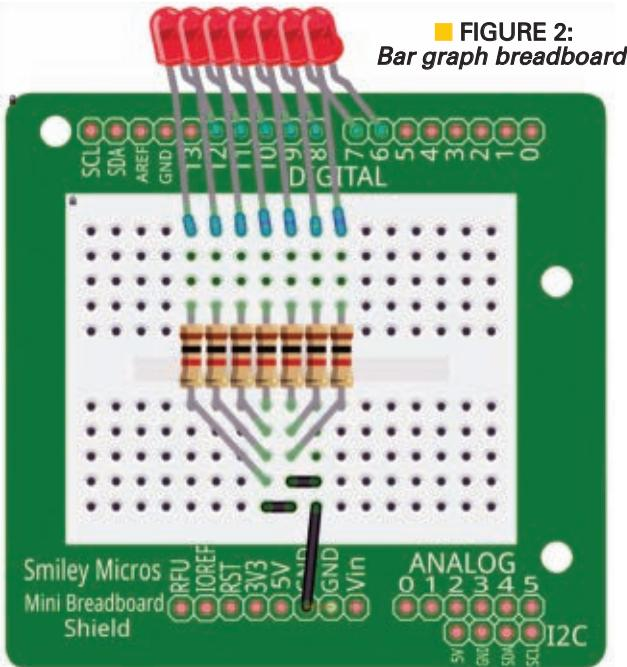

FIGURE 2:
- Build the circuit shown in **Figures 2, 3, 4, and 5**. In this circuit, each LED has an individual 1K Ω , but each of these resistors is carried to ground by a bundling of wires that may be somewhat difficult to visualize.
Figures 2, 3, 4, and 5. These LEDs can be lit to represent a relative magnitude from 0 (none lit) to 7 (all lit). Since the pin numbering and the LED numbering are offset by 6 (that is to say, the lowest LED is located on pin 6), then a magnitude of 1 would be represented by lighting the LED on pin 6; a magnitude of 2 would be represented by lighting the LEDs on pins 6 and 7; and so on to a magnitude of 7 which is represented by all the LEDs from pin 6 to pin 12.